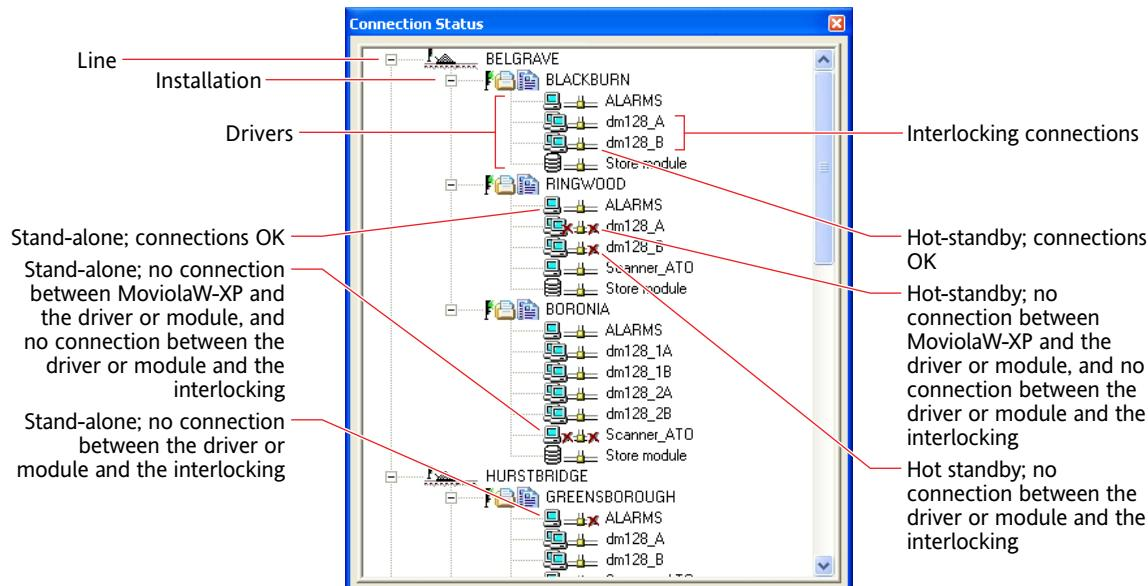

Figure 4.51 Connection Status window: icon details
- the **Connections** button (the Connection Status window opens; figure 4.51), or;
It indicates faulty connections as shown in figure 4.51.